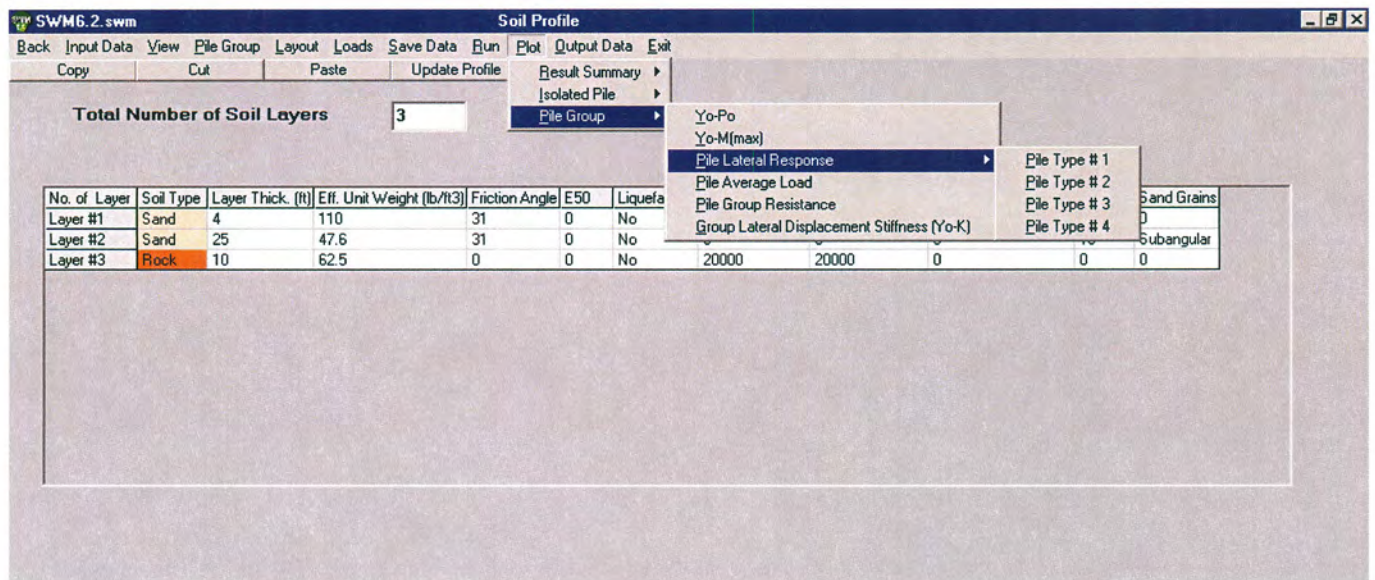

Fig. 28 A Pull-Down Menu to Plot the Response of Pile/Pile Group
- **Pile Group Lateral Response** [Fig. 28 thr. 31]